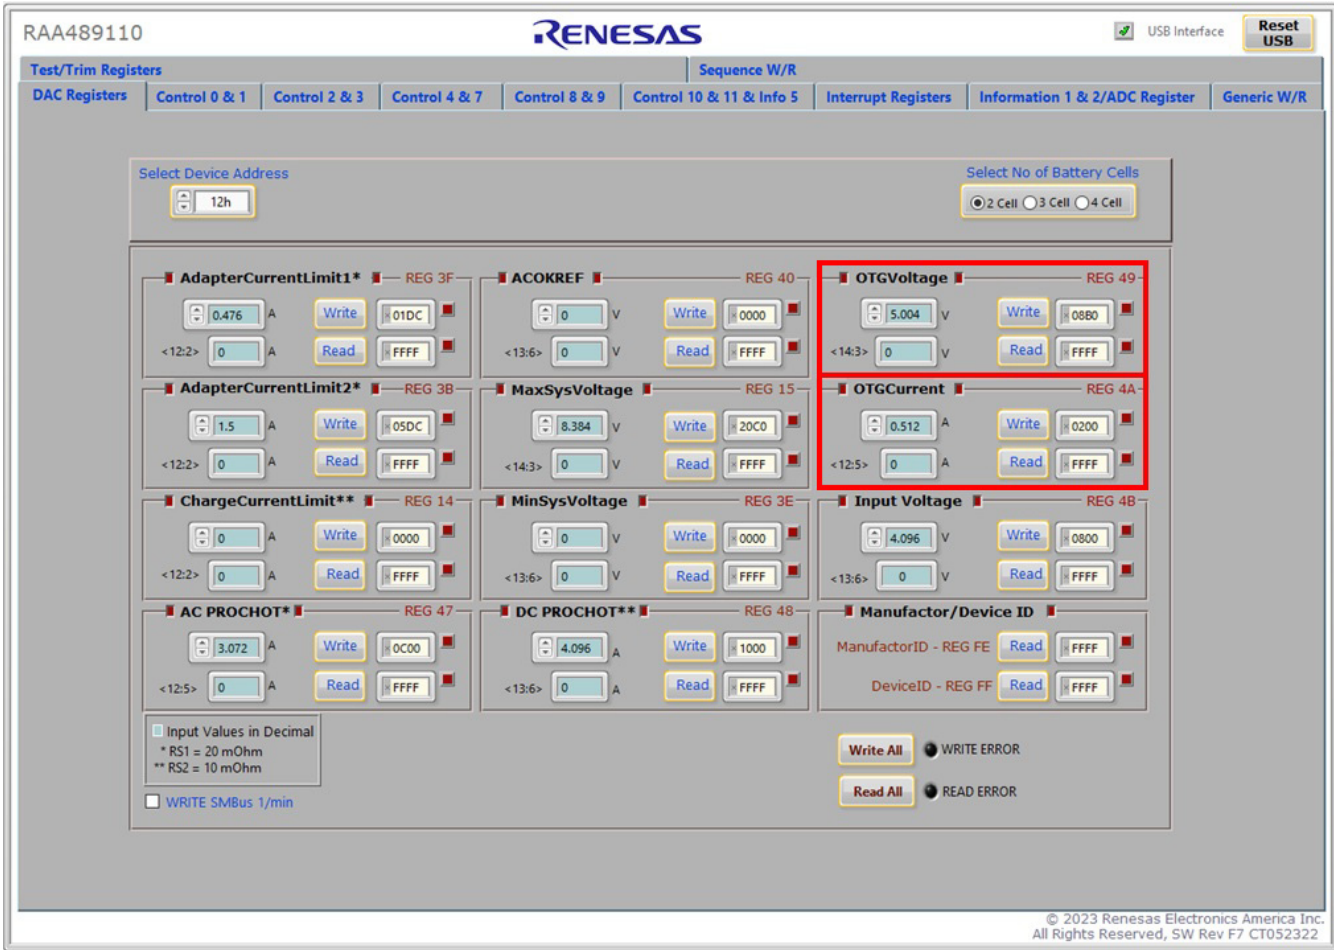

Figure 9. OTGVoltage and OTGCurrent Settings in GUI
4. Open the RAA489110 GUI. **OTGVoltage** is the voltage value for the load side, as shown in Figure 9, and **OTGCurrent** is the OTG output current limit at the load side. You can set these values as needed within the output limit range. Refer to the *RAA489110* datasheet for the limit ranges.